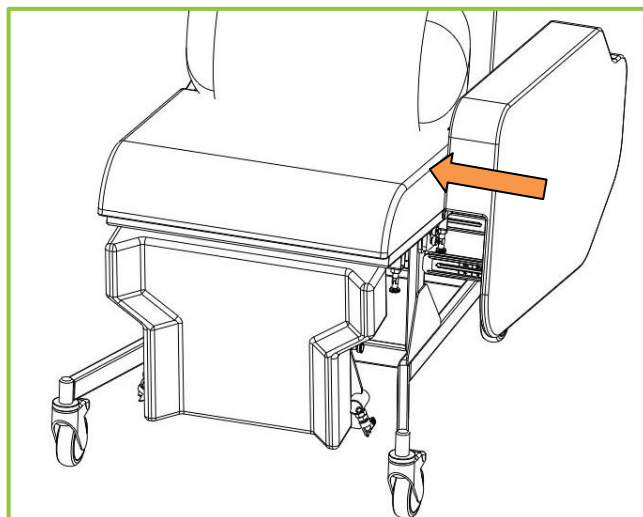
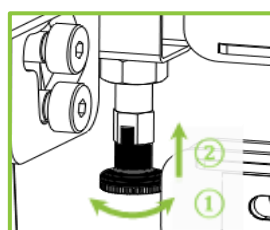

Figure 18
Figure 19
17. Locate the two sidepiece fixing bars into the chair frame. Push the sidepiece all the way in (Fig 18) and release the plunger by rotating it until the cap engages with the base (Figure 19).